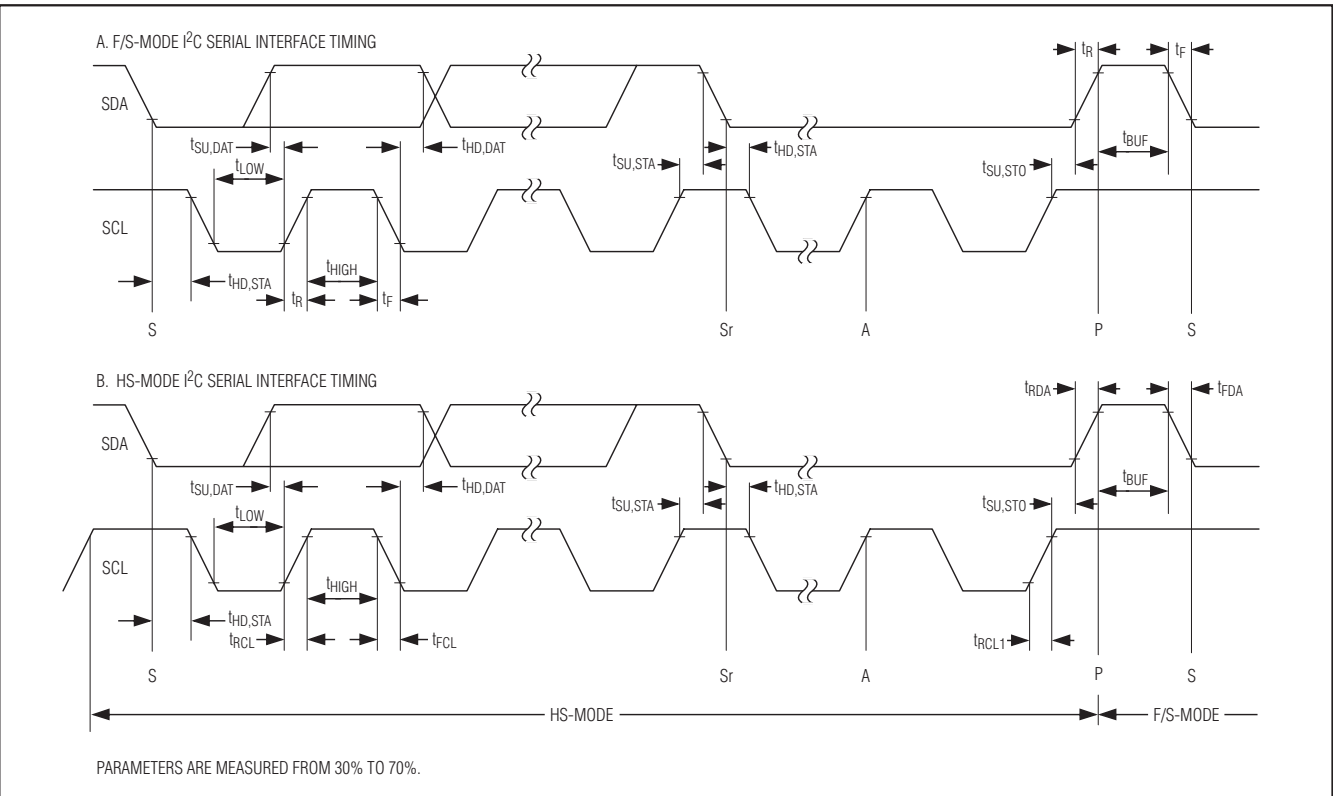

Figure 1. I²C Serial Interface Timing
**Note 9:** A master device must provide a data hold time for SDA (referred to  $V_{IL}$  of SCL) in order to bridge the undefined region of SCL's falling edge (see Figure 1).